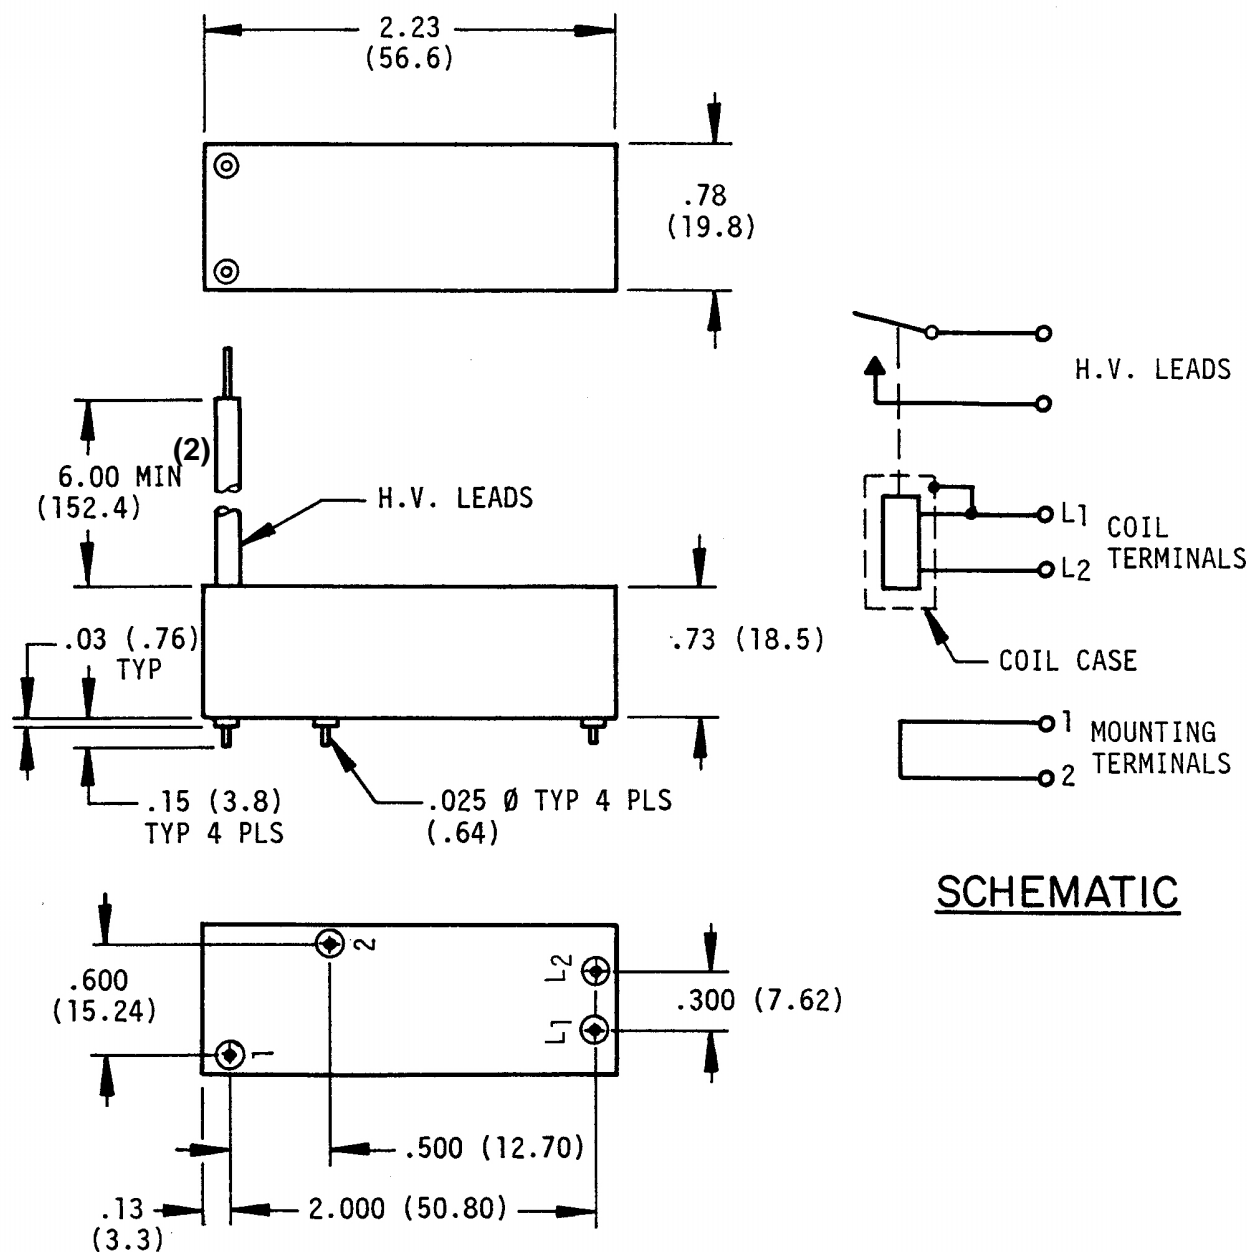

FIG. 2 OUTLINE FOR PART NUMBERS RK81A245, RK81A345, RK81A545
2. RK81 A-07 is same as RK81A345 except HV leads are 10" [see Figure 2]